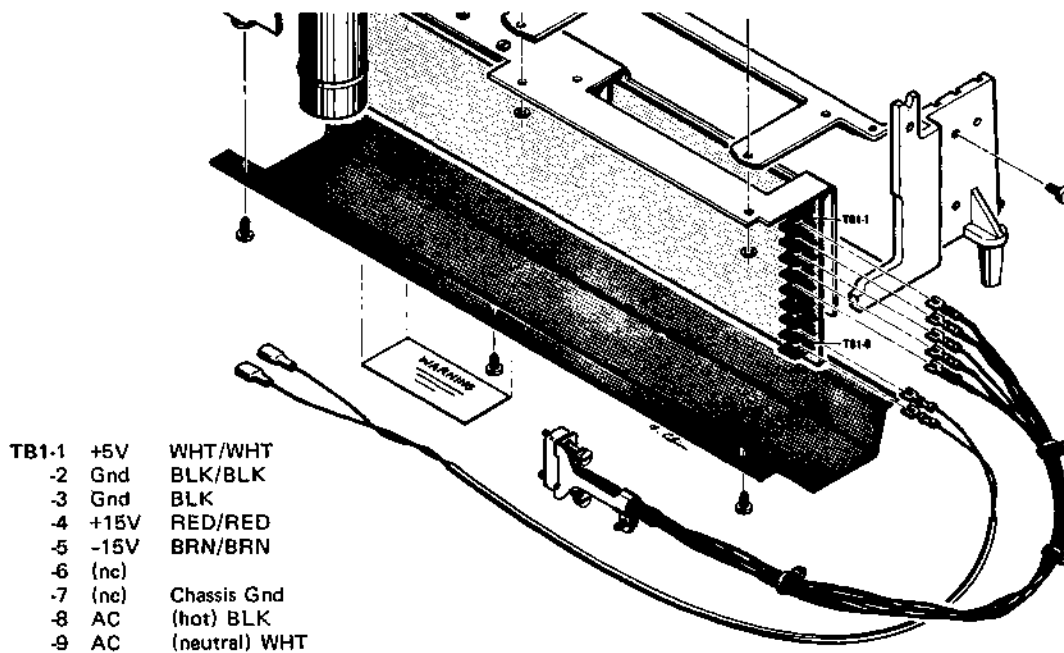

Figure 5-59 AC AND DC POWER CONNECTIONS
5. Connect the dc power cable to the power supply's terminal block as shown in Figure 5-59. If the ac and fan motor power cables are to be installed also they should be connected at this time.